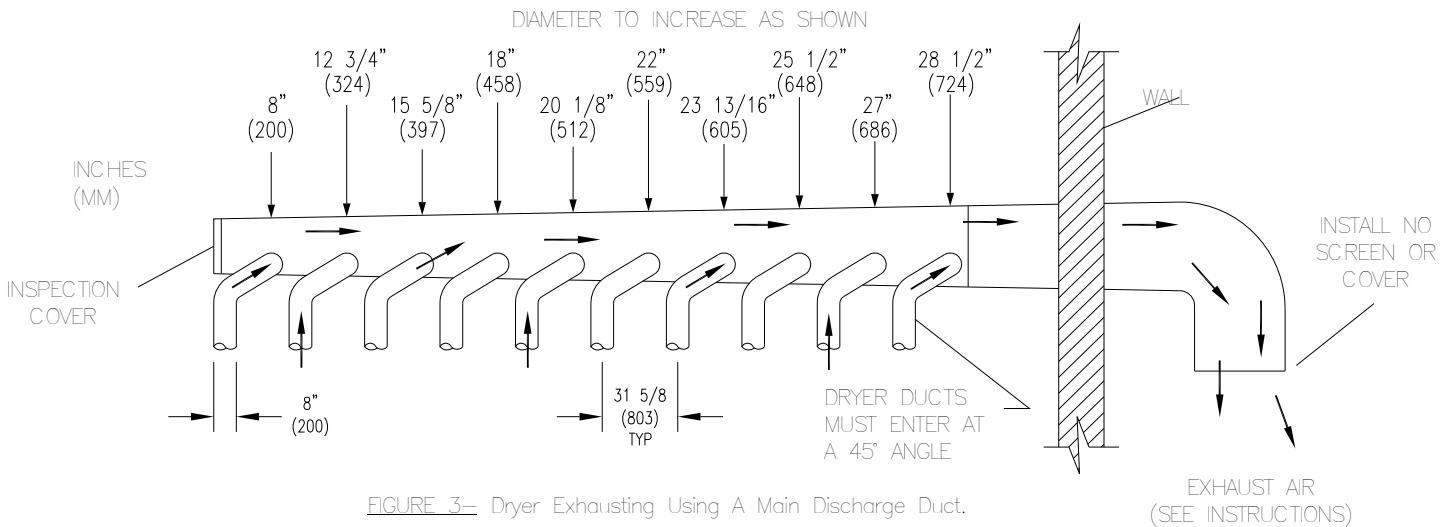

FIGURE 3— Dryer Exhausting Using A Main Discharge Duct.
6. EXHAUST INSTALLATION. (Refer to Figure 3) Exhausting of the dryer(s) should be planned and constructed so that no air restrictions occur. Any restriction due to pipe size or type of installation can cause slow drying time, excessive heat, and lint in the room.
Installation of several dryers, where a main discharge duct is necessary, will need the following considerations for installation (see Figure 3). Individual 203 mm (8 in.) exhaust ducts from each dryer should enter the main discharge duct at a 45-degree angle in the direction of discharge airflow.
NOTE: Never install the individual 203 mm (8 in.) ducts at a right angle into the main discharge duct. The individual ducts from the dryers can enter at the sides or bottom of the main discharge duct. Figure 3 indicates the various round main duct diameters to use with the individual dryer ducts. The main duct can be rectangular or round, provided adequate airflow is maintained. For each individual dryer, the total exhausting (main discharge duct plus duct outlet from the dryer) should not exceed the equivalent of 4.27 m (14 ft.) and two elbows. The diameter of the main discharge duct at the last dryer must be maintained to exhaust end.